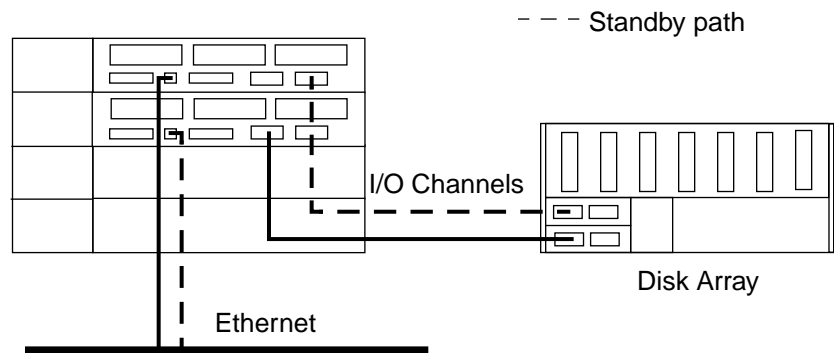

Figure 3-1 Alternate Pathing provides redundancy in the event of a storage or network controller failure
Alternate Pathing (AP) promotes system availability by maintaining access to critical network and storage resources even after a failure. Just as mirroring provides a redundant copy of the data in the event of a disk failure, Alternate Pathing provides redundancy in the event of a *controller* failure. With Alternate Pathing, if a disk controller fails, disk operations are automatically redirected to a predefined alternate path (Figure 3-1). *Users continue to access disk storage without interruption.*